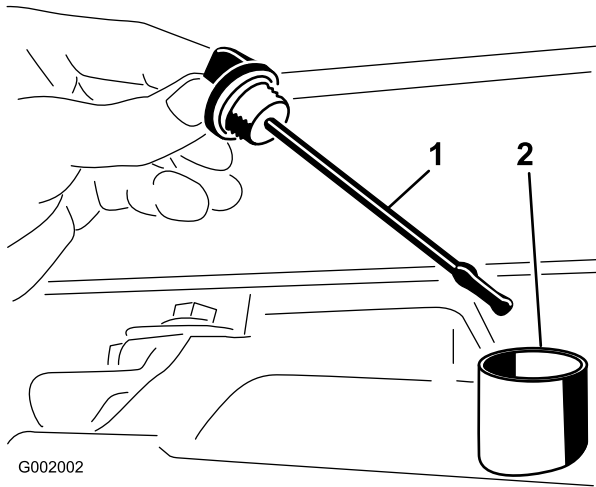

Figure 65
2. Remove the transaxle dipstick and wipe it with a clean rag (Figure 65).